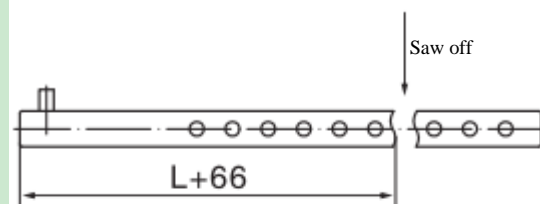

Fig. 22: bolt end of the extended shaft
(2) As illustrated in Fig. 22, measure the length $(L+66)$ mm at the end of the bolt of the extended shaft, and saw off the excess part.